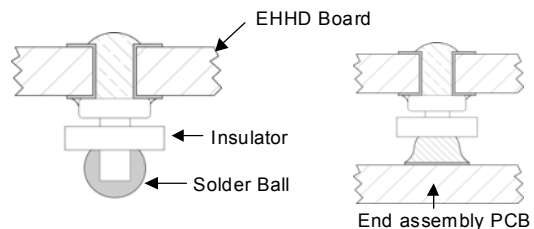

Figure 25. Column Pin Connector Before and After Reflow Soldering .
The surface mountable modules in the EHHD family use our newest SMT technology called "Column Pin" (CP) connectors. Figure 25 shows the new CP connector before and after reflow soldering onto the end-board assembly. The CP is constructed from a solid copper pin with an integral solder ball attached, which is composed of tin/lead (Sn/Pb) solder for non-Z codes, or Sn/Ag3/Cu (SAC) solder for -Z codes.
Power Systems will comply with J-STD-015 Rev. C (Moisture/Reflow Sensitivity Classification for Nonhermetic Solid State Surface Mount Devices) for both Pb-free solder profiles and MSL classification procedures. This standard provides a recommended forced-air-convection reflow profile based on the volume and thickness of the package (table 4-2). The suggested Pb-free solder paste is Sn/Ag/Cu (SAC). The recommended linear reflow profile using Sn/Ag/Cu solder is shown in Figure 25.